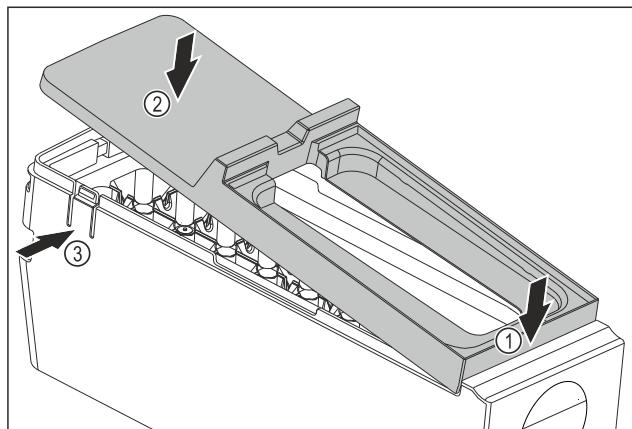

Fig. 89
- ▶ Installing the EasyTwist-Ice body cover: Place the cover on the front. Fig. 89 (1)
- ▶ Lower the cover at the rear. Fig. 89 (2)
- ▶ The cover locks into both tabs Fig. 89 (3) audibly.